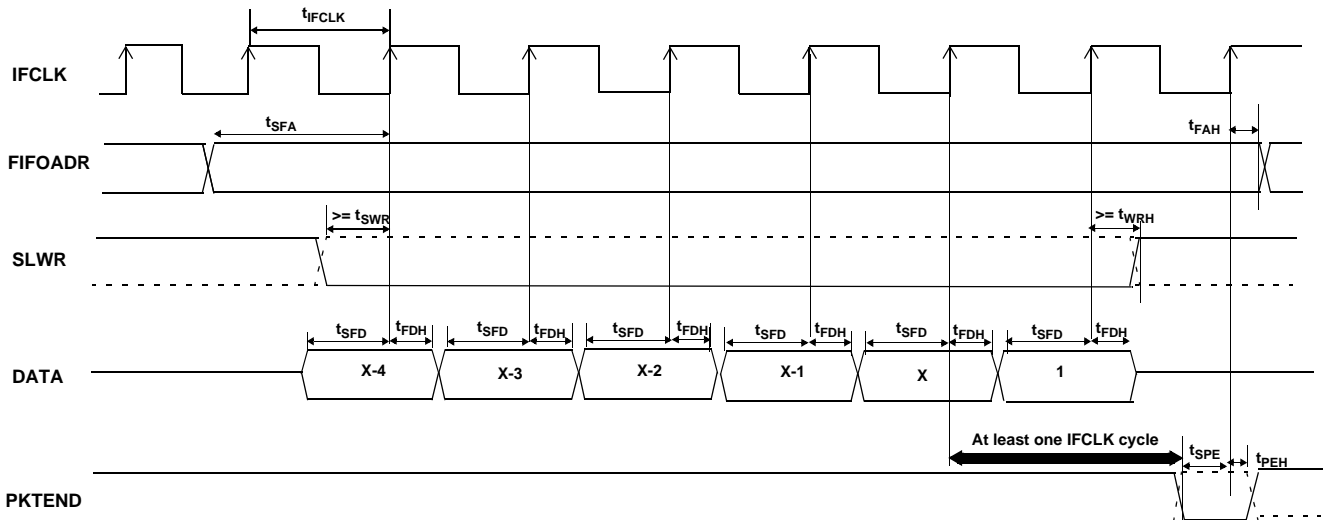

Figure 10-12. Slave FIFO Synchronous Write Sequence and Timing Diagram[20]
auto mode and it is desired to send two packets back to back: a full packet (full defined as the number of bytes in the FIFO meeting the level set in AUTOINLEN register) committed automatically followed by a short one byte/word packet committed manually using the PKTEND pin. In this particular scenario, user must make sure to assert PKTEND at least one clock cycle after the rising edge that caused the last byte/word to be clocked into the previous auto committed packet. *Figure 10-12* below shows this scenario. X is the value the AUTOINLEN register is set to when the IN endpoint is configured to be in auto mode.
*Figure 10-12* shows a scenario where two packets are being committed. The first packet gets committed automatically when the number of bytes in the FIFO reaches X (value set in AUTOINLEN register) and the second one byte/word short packet being committed manually using PKTEND. Note that there is at least one IFCLK cycle timing between the assertion of PKTEND and clocking of the last byte of the previous packet (causing the packet to be committed automatically). Failing to adhere to this timing, will result in the FX2 failing to send the one byte/word short packet.
Although there are no specific timing requirement for the PKTEND assertion, there is a specific corner case condition that needs attention while using the PKTEND to commit a one byte/word packet. Additional timing requirements exists when the FIFO is configured to operate in auto mode and it is desired to send two packets: a full packet (full defined as the number of bytes in the FIFO meeting the level set in AUTOINLEN register) committed automatically followed by a short one byte/word packet committed manually using the PKTEND pin. In this case, the external master must make sure to assert the PKTEND pin at least one clock cycle after the rising edge that caused the last byte/word to be clocked into the previous auto committed packet (the packet with the number of bytes equal to what is set in the AUTOINLEN register). Refer to Figure 10-12 for further details on this timing.